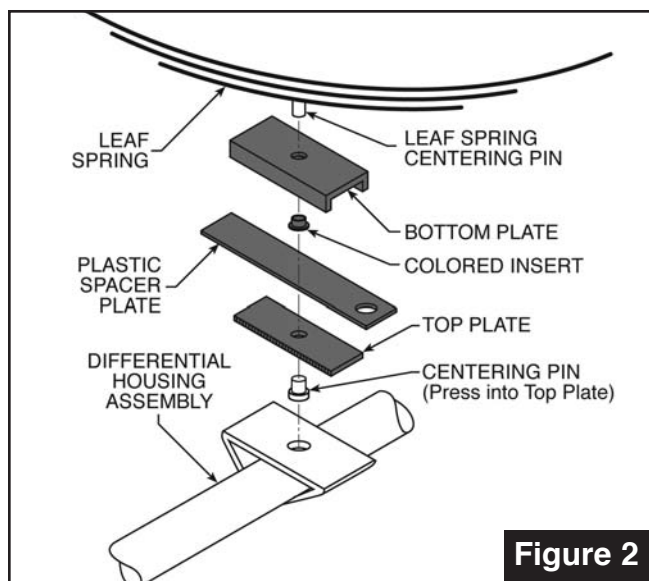

Figure 2
■ For those vehicles where the leaf spring is above the differential housing, refer to **Figure 2**.